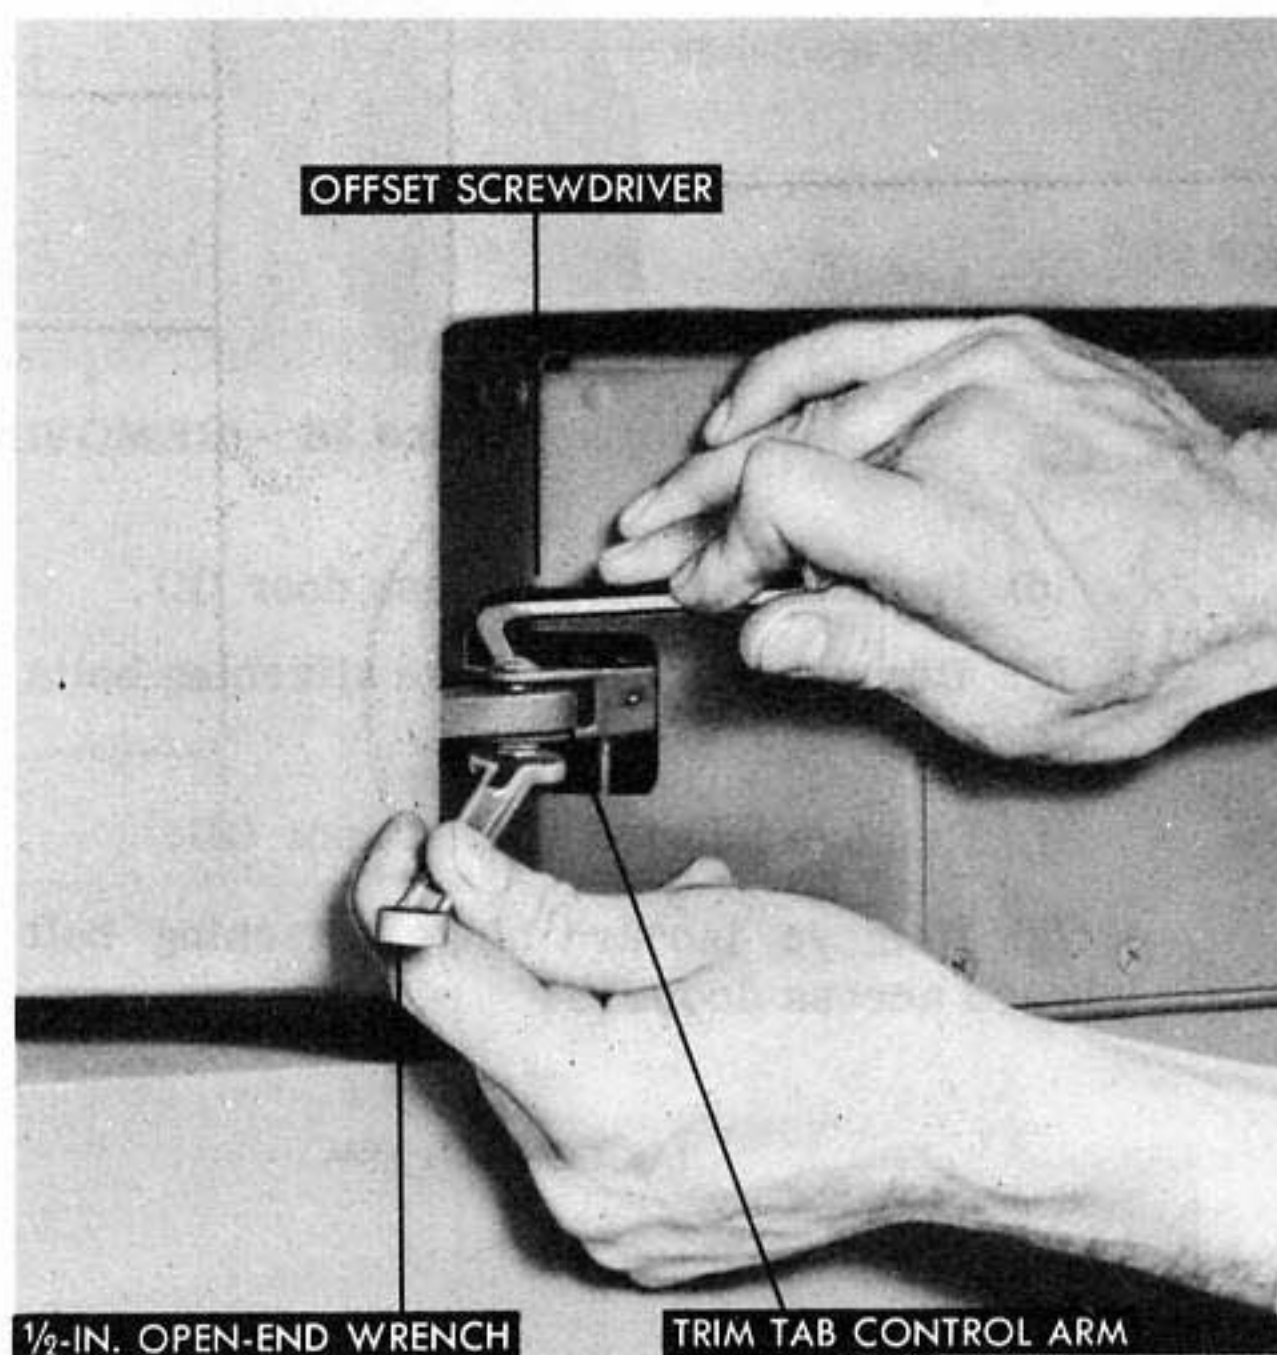

Figure 42 - DISCONNECTING TRIM TAB CONTROL ARM FOR RUDDER REMOVAL
(5) REMOVAL OF RUDDER. (See figure 42.)